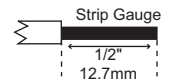

Fig 3: Wire Stripping
7. Tag the wires currently connected to the existing switch, so that they can be identified later. Disconnect the wires. Make sure the insulation is stripped off the wires to expose their copper cores to the length indicated by the "Strip Gage," in Fig. 3 (approximately 1/2 inch).